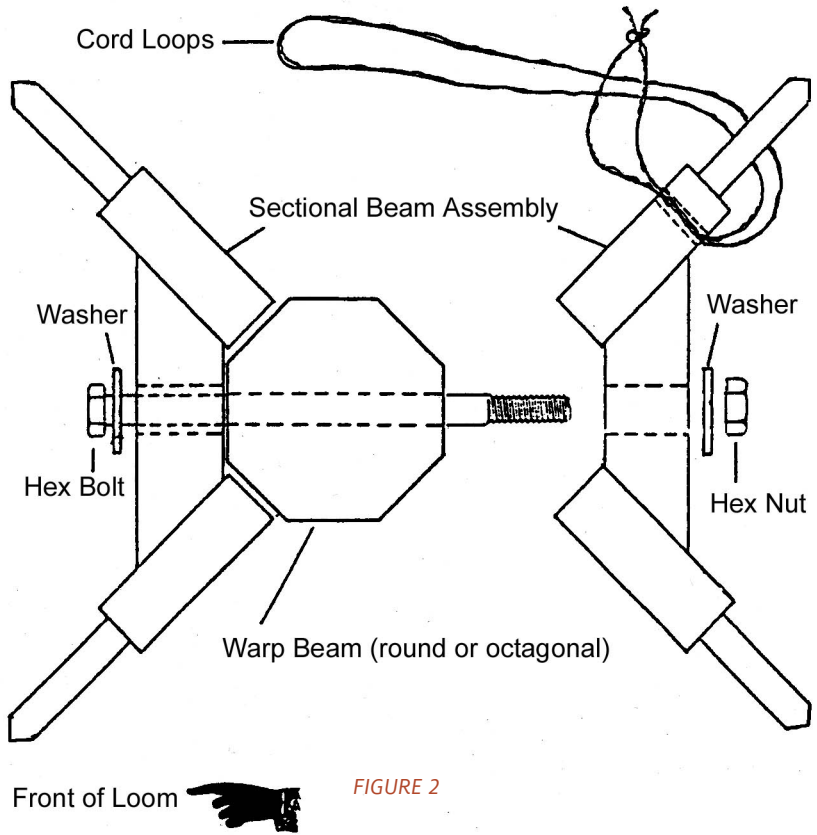

FIGURE 2
5. Turn the warp beam so that the holes in it face front and rear. (Figure 2)
6. Place one of the sectional beam assemblies on the warp beam. Center the holes in the right angle blocks over the holes in the warp beam. (Figure 2)
7. Put washers on the three 9" hex bolts and push the bolts through the holes in the right angle blocks and through the holes in the warp beam. (Figure 2)
8. Place the other sectional beam assembly on the warp beam opposite the first assembly. (Figure 2)
9. Put washers over the ends of the three hex bolts and put on the hex nuts and tighten. (Figure 2)
10. Make loops of the 60" cords provided by tying both ends together with an overhand knot. Insert the cord loops through the small holes that have been drilled into one of the dowel sections. (Figure 2)